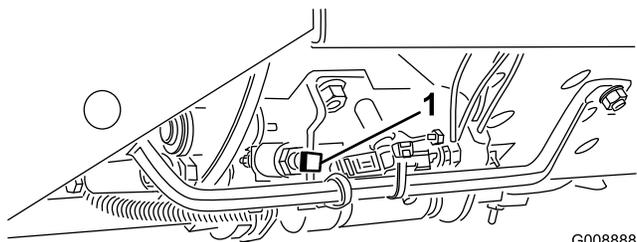

Figure 22
**Important:** The mow speed is set at the factory to 9.7 km/h (6 MPH). It can be increased or decreased by adjusting the speed stop screw (Figure 22).